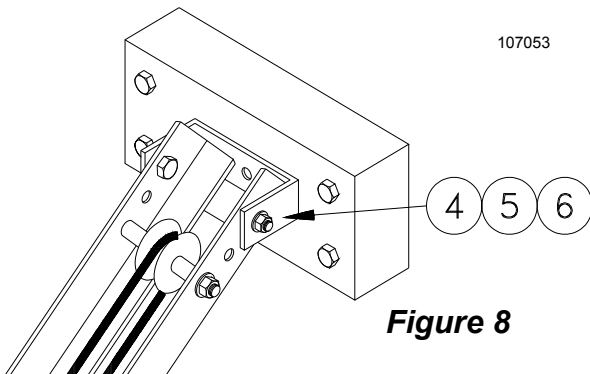

Figure 8
5) With the door in the down position, loosely attach the rail support to the mounting bracket using two (2) bolts, lockwashers and nuts (Items 4, 5, 6). See Figure 8.